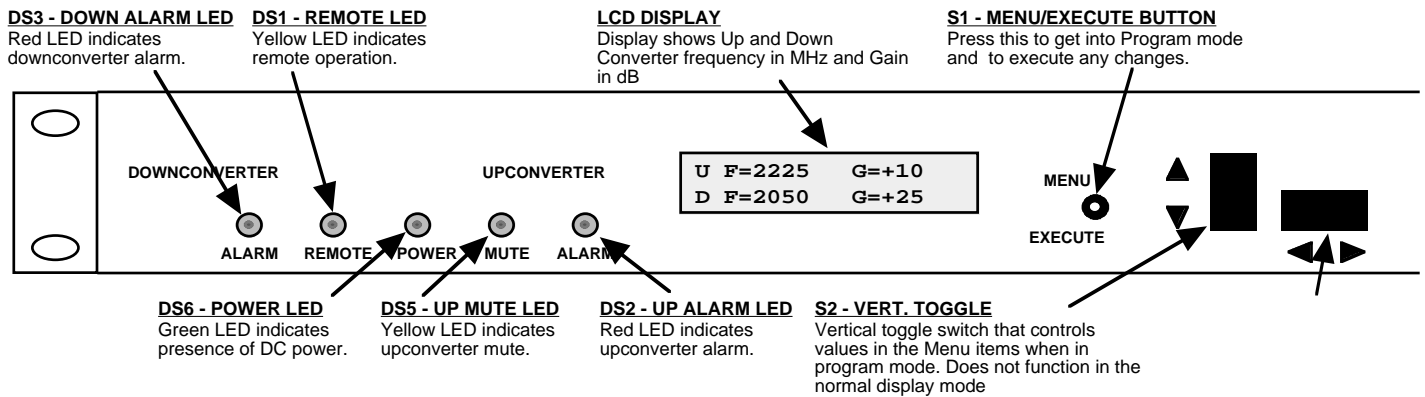

Figure 2.2 Model 2017-25 Front Panel Controls and Indicators
- 8.) Be sure DS6 (green, DC Power) is on and DS2 (red, Alarm) is off (Figure 2.2).
- 7.) Be sure DS6 (green, DC Power) is on and DS2 (red, Alarm) is off (Figure 2.2).
Alarm indications appear on the LEDs (see figure 2.2).